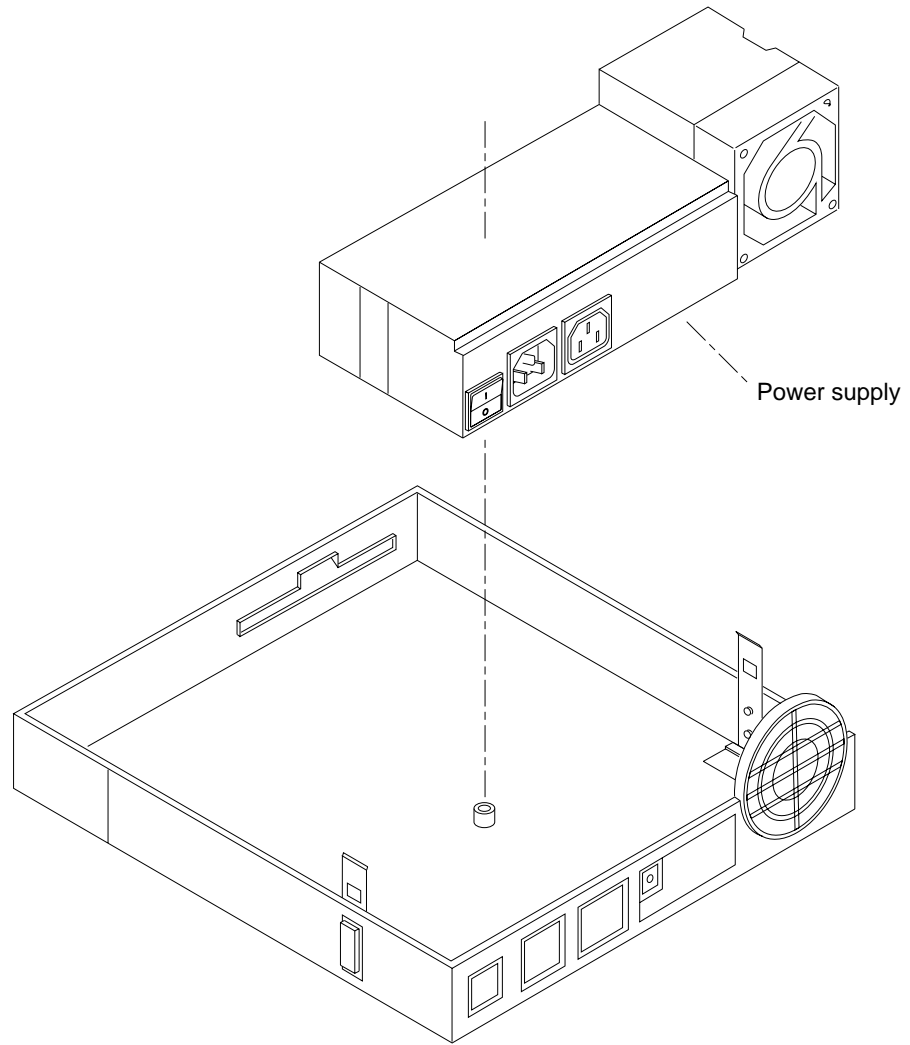

Figure 4-15 Removing and Replacing the Power Supply
- 6. Connect the diskette drive data cable and the hard disk data cable (if a hard disk is present) to their respective connectors on the main logic board. (See Figure 4-15).**
Figure 4-15 shows how to remove and replace the power supply.
- 3. Lower the power supply into the unit top as shown in Figure 4-15.**
- 5. Be sure the power switch is in the OFF (O) position and connect the system power cord to the AC power outlet.**
There are no voltage test points on the main logic board. If you need to measure voltages, the safest place is at the power connector on the main logic board (see Figure 4-15). See “Before Replacing the Main Logic Board” later in this chapter for the connector wiring and voltages.